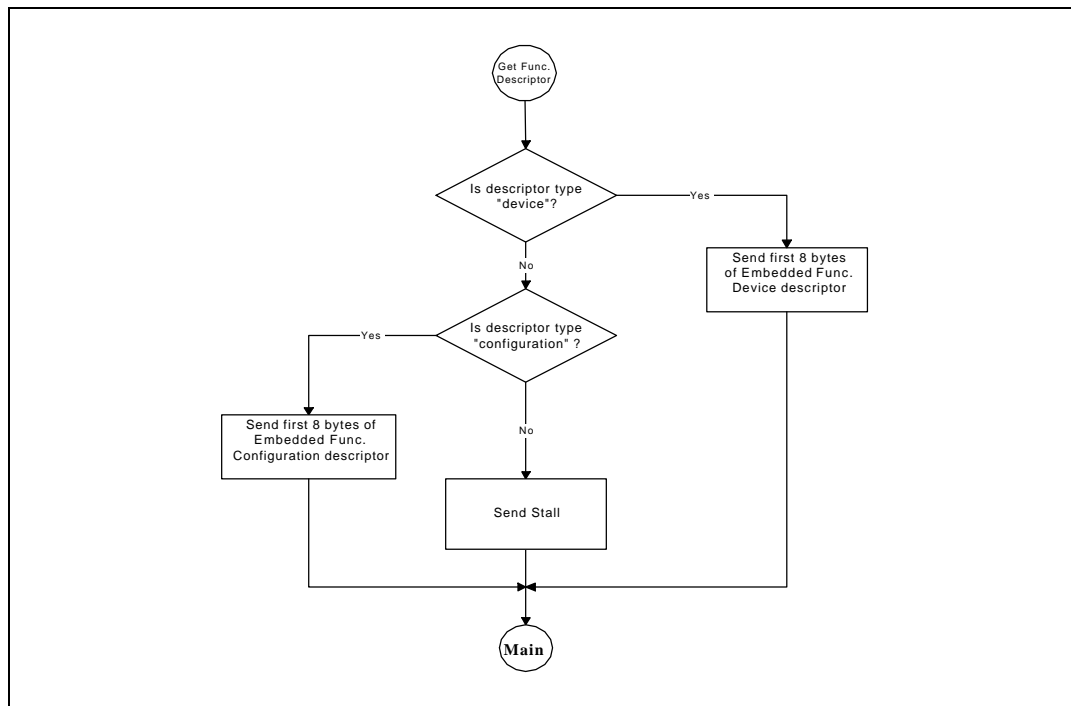

Figure 29: Embedded Function Get Descriptor Standard Command
- Get Function Descriptor (Figure 29)